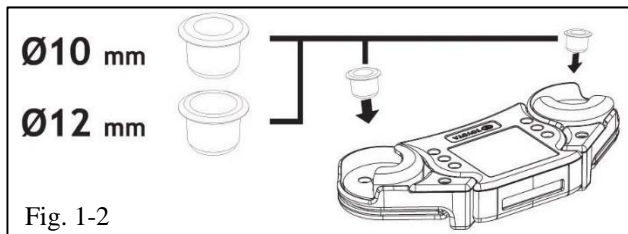

Fig. 1-2
- (d) Push the inserts in from underneath until they are flush (Fig. 1-2).